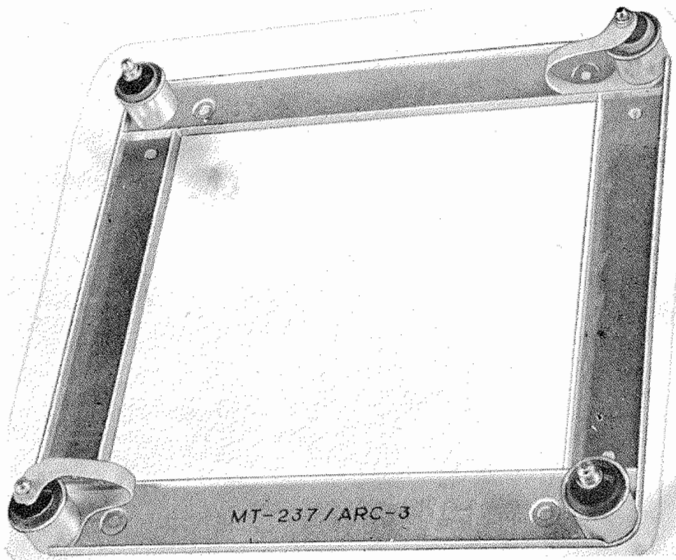
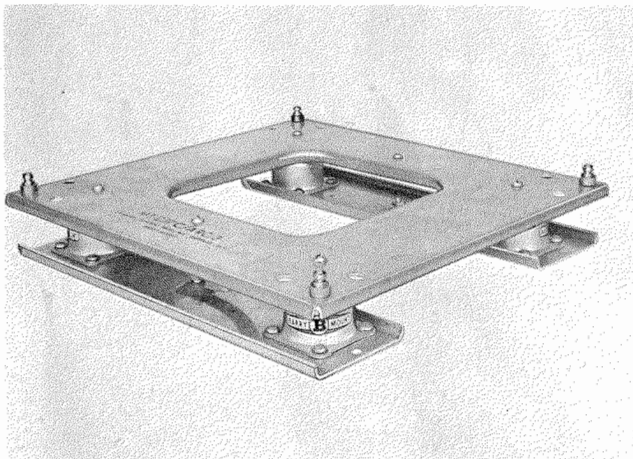

Figure 1-19. Mounting Base MT-237/ARC-3
Figure 1-20. Mounting Base MT-237C/ARC-3
(5) Mounting Base MT-237C/ARC-3 (See fig. 1-20) is supplied for shock-mounting the AN/ARC-3, AN/ARC-36, or AN/ARC-49 receiver. Mounting base MT-237/ARC-3, (See fig. 1-19), MT-237A/ARC-3, or MT-237B/ARC-3 may be used with the AN/ARC-3 or AN/ARC-36 receiver but should not be used with the AN/ARC-49 receiver.